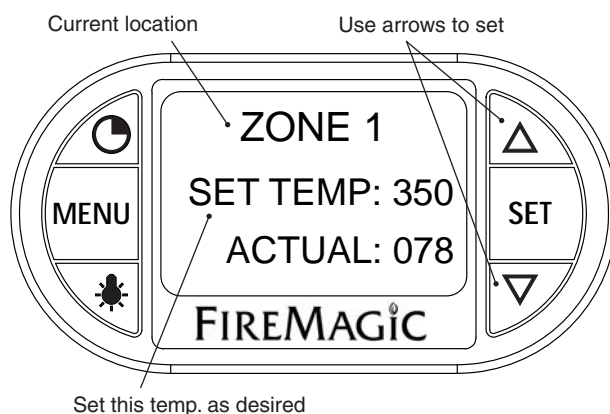

Fig. 22-4 Location temp. screen (zone 1 shown)
2. The selected location's temperature screen will be displayed. Use the arrows to set the desired temp. The actual temp. will also be shown. (See Fig. 22-4.)